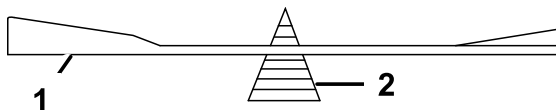

Figure 60
- Check the balance of the blade by putting it on a blade balancer (Figure 60).